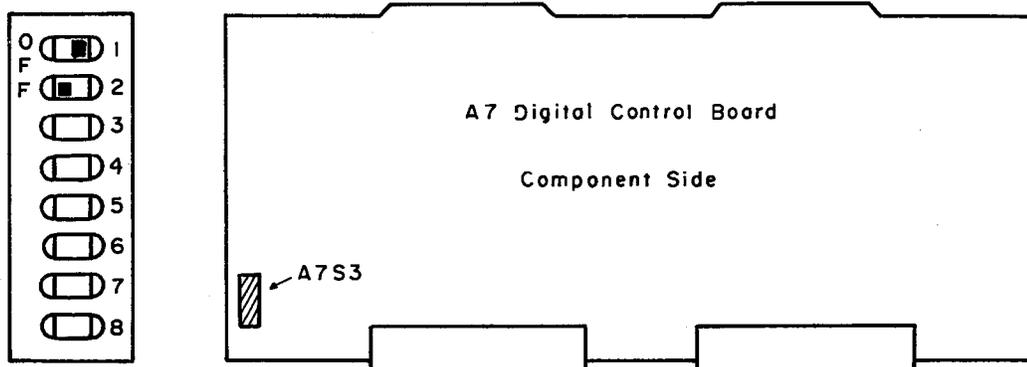

Figure 2-7. A7S3 Setting for Option 101
- Remove the A7 board, and set bits 0 and 1 of switch A7S3 (A7S3-1 and A7S3-2), as shown in Figure 2-7.